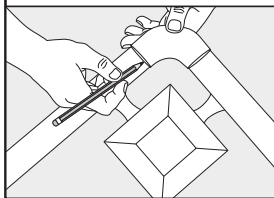

Fig. 8
2. Place the corner in line with each lineal. Scribe and cut the lineals (Fig. 8).